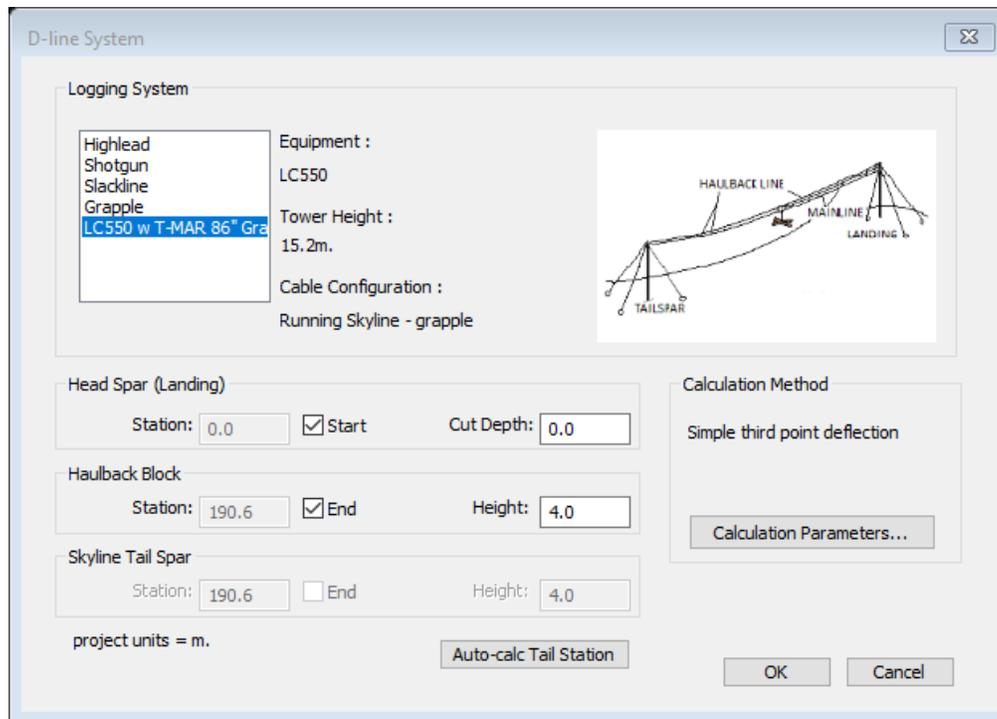

Figure 12-9: New parameters in the D-line system dialogue box
6. In the *D-line System* dialogue box, change the parameters to those shown in Figure 12-9: